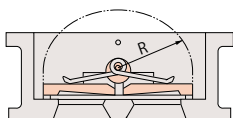

Fig.4
[Caution] As shown in Fig. 4, use a gasket with the standard inner diameter so that the bypass hole is not blocked by the gasket. In particular, when using a soft gasket such as rubber or fluororesin for 907T and 908H, it may deform and block the bypass hole, so pay particular attention to the inner diameter.
- Make sure that the end of a pipe or gasket does not come within the operating radius of the plate of the Bata-Check valve. (Fig. 4)